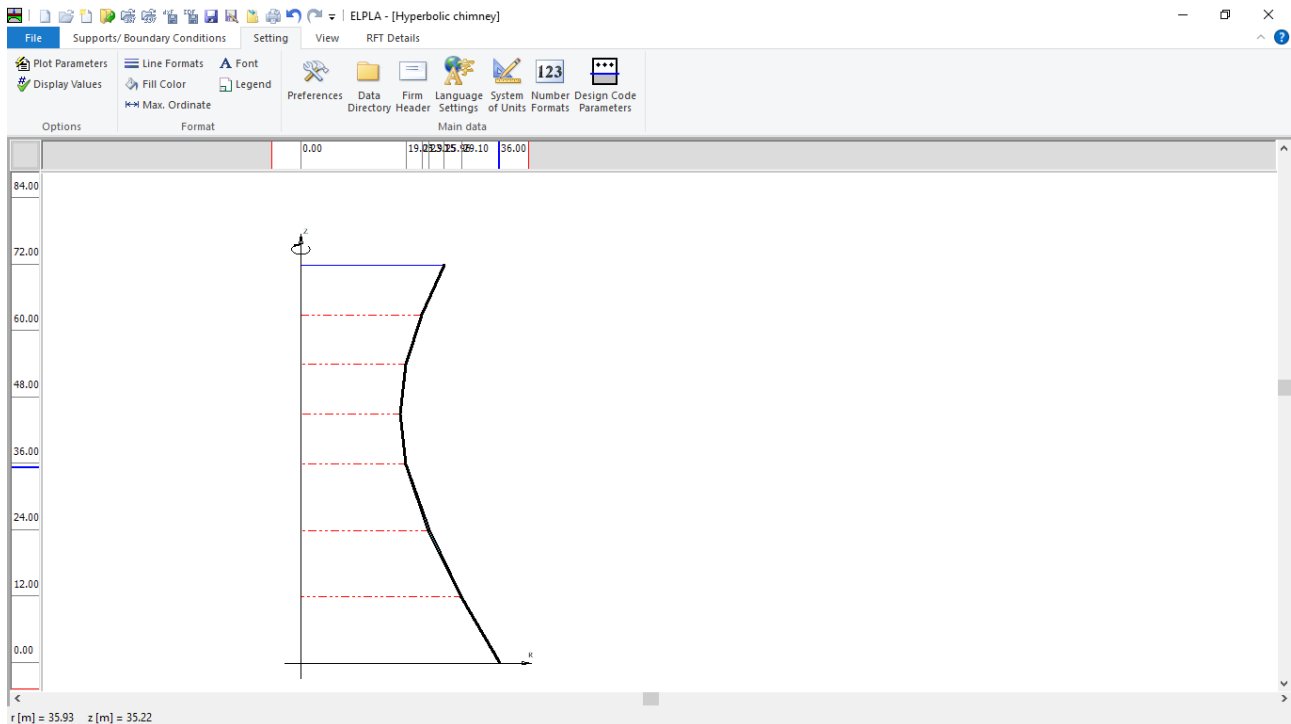
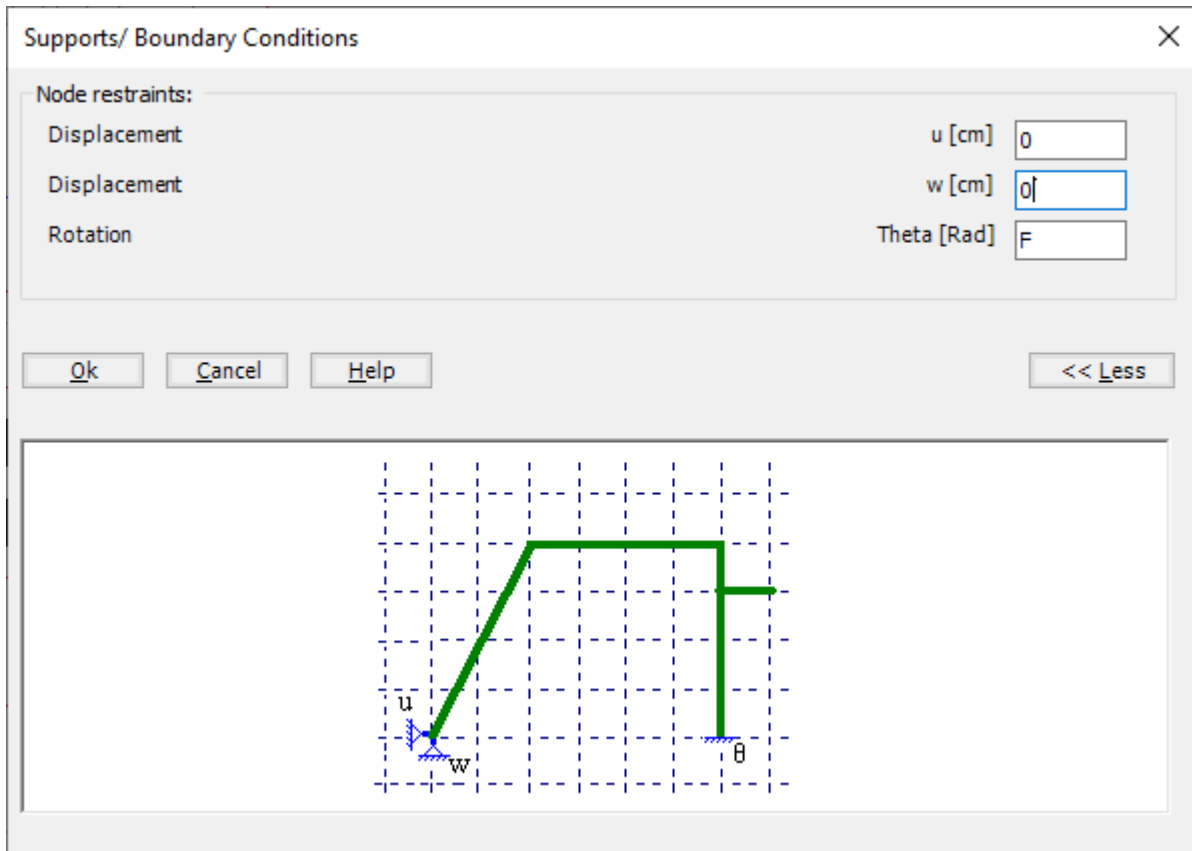

Figure 11.17 "Supports/ Boundary Conditions" Window
Figure 11.19 "Supports/ Boundary Conditions" dialog box
To define the hinged support, choose "Supports/ Boundary Conditions" command from "Data" Tab. The following window in Figure 11.17 appears.
- Choose "Select Nodes" command from "Graphically" menu in Figure 11.17. When "Select Nodes" command is chosen, the cursor will change from an arrow to a cross hair
- After selecting the node, choose "Add Supports/ Boundary Conditions" command from "Graphically" menu (Figure 11.17). The "Supports/ Boundary Conditions" dialog box in Figure 11.19 appears.
- Choose "Save " command from "File" menu in Figure 11.17 to save the data of supports
- Choose "Close" command from "File" menu in Figure 11.17 to close the "Supports/ Boundary conditions" window and return to the main window.